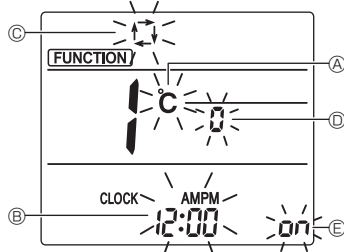

Fig. 5-11
The Screen display setting screen will be displayed. (Fig. 5-11)
5.12.2. Changing the temperature unit (Fig. 5-11 Ⓐ)
- Press the **TEMP** button ⑤.
- Each time the **TEMP** button ⑤ is pressed, the setting switches between **C** and **F**.
5.12.3. Changing the time display (Fig. 5-11 Ⓑ)
- Press the **TIME** button ⑥.
- Each time the **TIME** button ⑥ is pressed, the setting switches between **12:00^{AMPM}** and **24:00^{AMPM}**.
5.12.4. Changing the AUTO mode (Fig. 5-11 Ⓒ)
- Press the **MODE** button ⑦.
- Each time the **MODE** button ⑦ is pressed, the setting switches between **Ⓜ** and **Ⓜ**.
5.12.5. Changing the pair No. (Fig. 5-11 Ⓓ)
- Press the **UP/DOWN** button ④.
- Each time the **UP/DOWN** button ④ is pressed, the pair No. 0-3 changes.